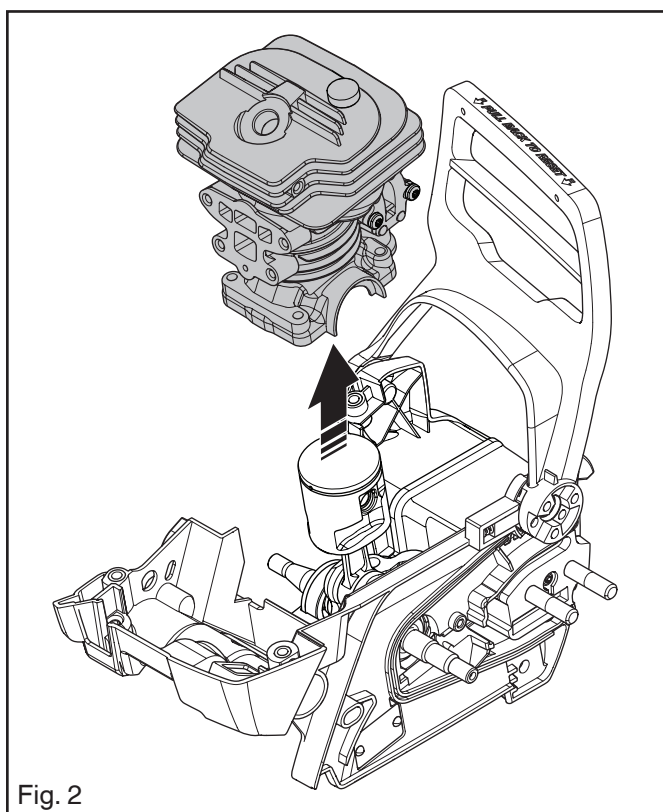

Fig. 2
7. Remove the cylinder. See Figure 2.